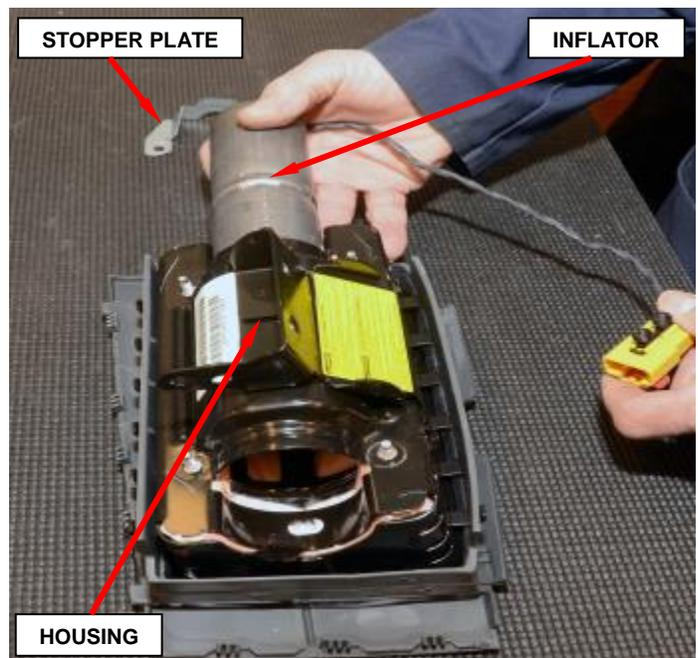

Figure 37 – Inflator Removal
f. Slide the inflator out of the housing (Figure 37).